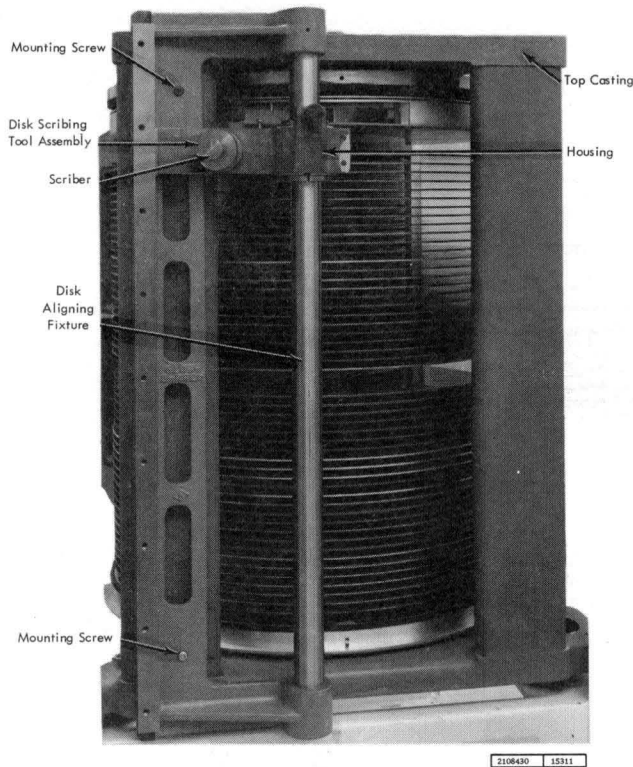
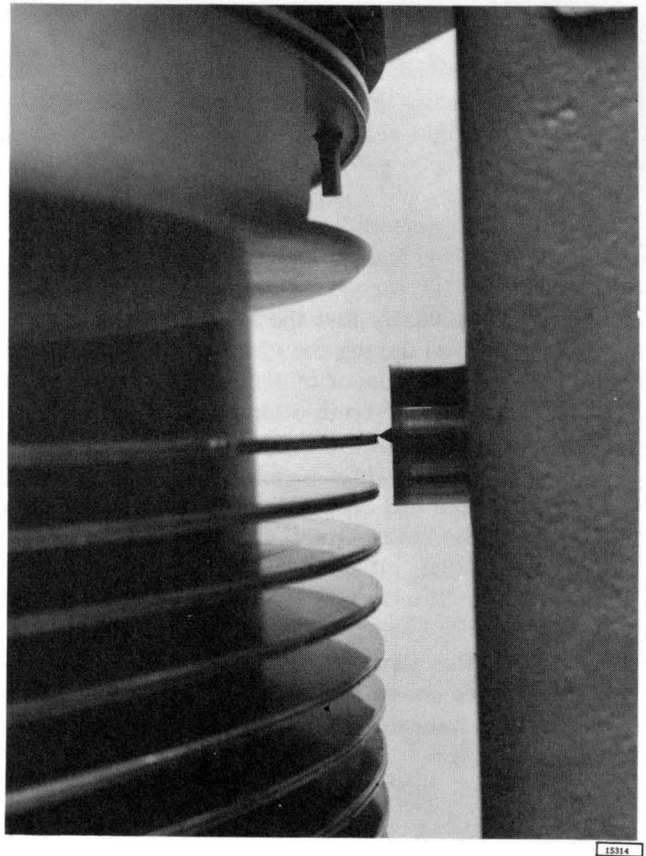

Figure 2-6. Disk Scribing and Aligning Fixture
Figure 2-9. Disk Scribing
8. Mount the disk scribing and aligning fixture assembly (Figure 2-6) to rear support casting and tighten the two screws 140 ±10 in. lb. torque.
11. Insert the disk scribing tool assembly into housing (Figure 2-6). Rotate scriber until point is just short of making contact with edge of disk (Figure 2-9). Move scribing tool up and down over the full length of the disk edge, while slowly rotating scriber, until disk is scribed. Back out scriber while moving from one disk to another. Remove scriber.